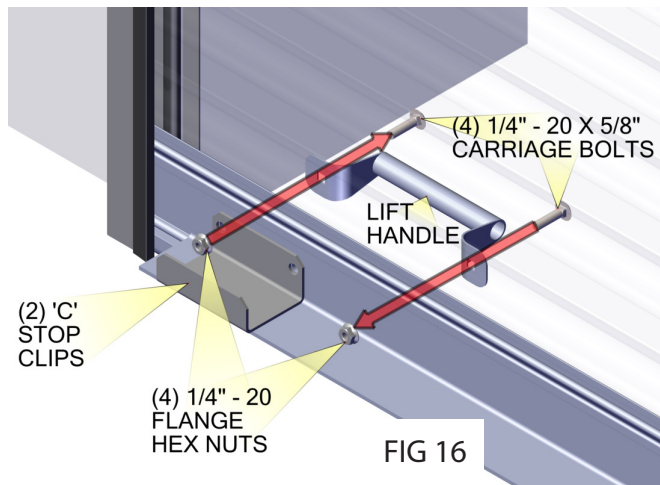

FIG 16
- For doors with an aluminum bottom bar, a 'C' stop-clip will need to be installed. Only one bolt is required to secure the stop-clip to the bottom bar when attaching a lift handle on that side. Repeat assembly procedure for both sides. See FIG 16.